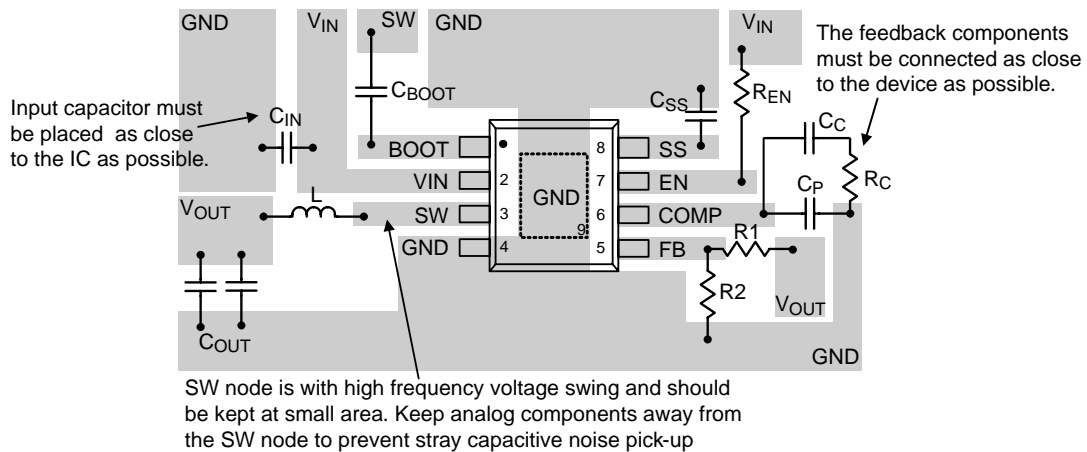

Figure 10. PCB Layout Guide
- ▶ An example of PCB layout guide is shown in Figure 10 for reference.